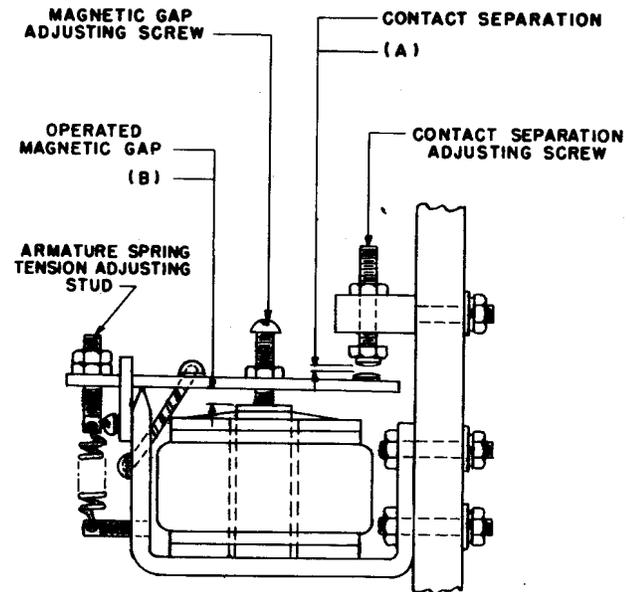

Fig. 7 — SR Relay (shown in operated position)
(d) **SR Relays:** Fig. 7(A) and (B) — With the relay in the operated position, the following requirements shall be met